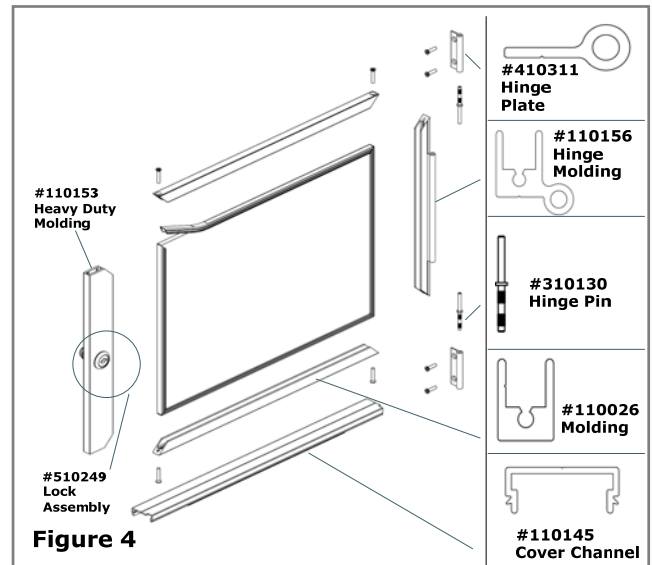

Figure 4
6. Position the glazing tape on all four sides of the ¼" panel. Tap door molding into place with rubber mallet. After glazing, secure frame with #6 screws (part #212017). **See Figure 4.**
7. Place the knurled ends of the hinge pins into the hinge plates. Place hinge pin with plate into the extruded hinge molding located at door side. Place door assembly into door opening. Fasten door assembly with hinge plates to jamb with screws (part #212040). **See Figure 4.**